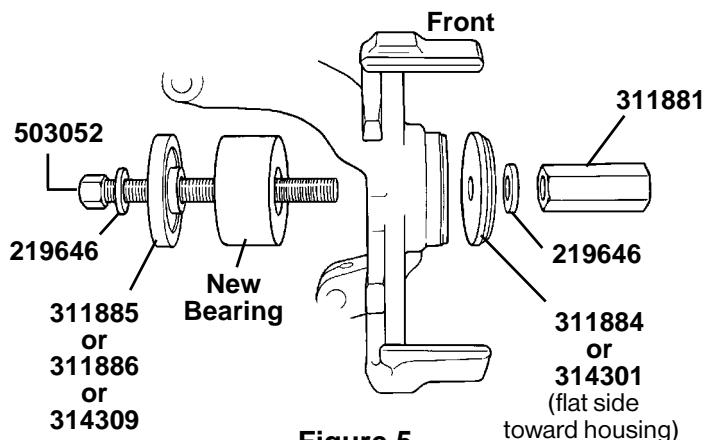

**Figure 4**
3. Use a wrench to hold the forcing screw (Figure 3) or forcing screw nut (Figure 4), and press out the worn bearing.